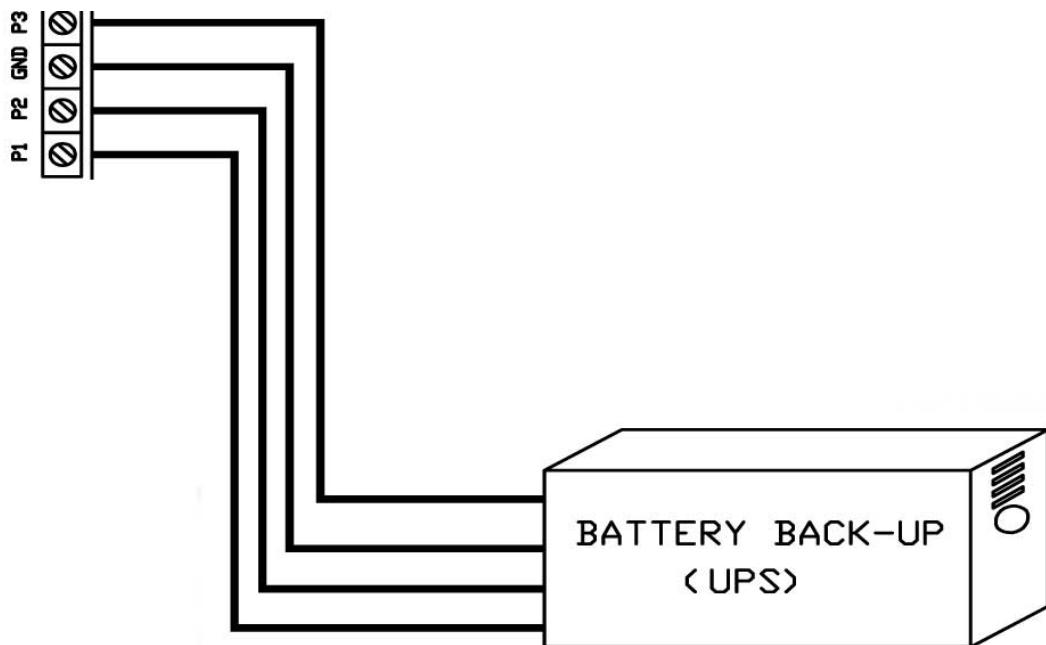

Figure 104
- 4) Connect the back up battery as shown in Figure 104.